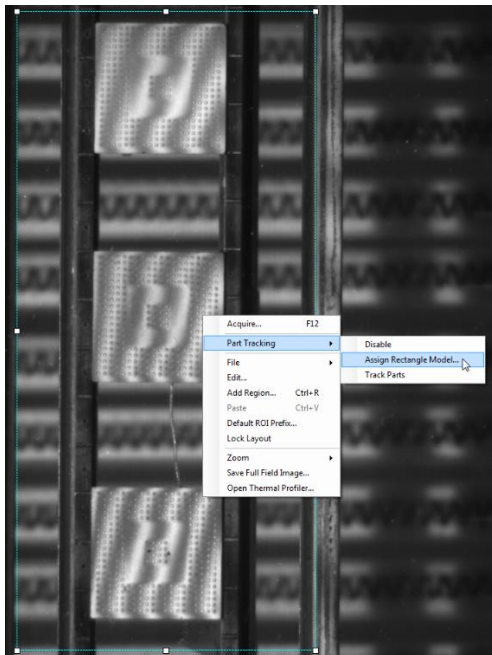
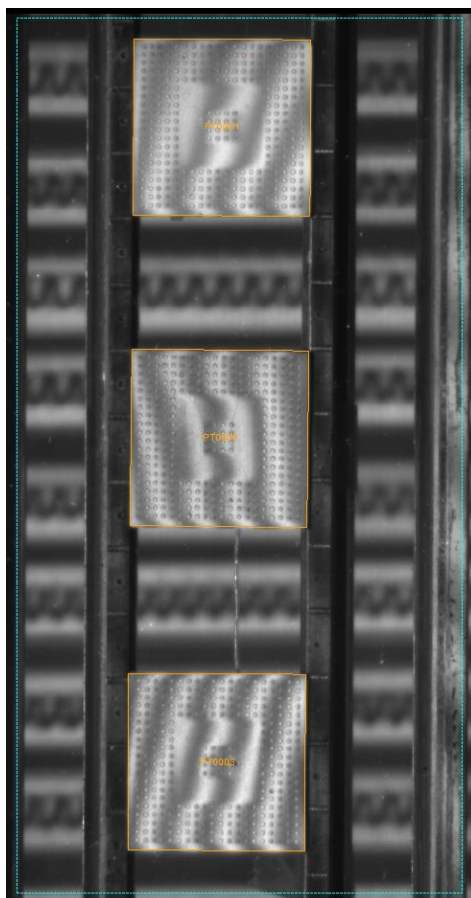

Figure 2.44 Assign Model
Figure 2.46 Tracked Parts
3. Size the blue, dotted-line ROI such that it contains all parts that will be tracked. Right click inside this ROI and click 'Assign Rectangle Model' (**Figure 2.44**).
Note: Instead of immediate acquisition, which may incur a large processing time with large numbers of parts, the user can check part tracking settings by right-clicking on the camera context window and selecting the 'Track Parts' option shown in **Figure 2.44**. The currently tracked parts will be shown outlined in orange as shown in **Figure 2.46**. The same tracking display will be seen after a normal acquisition with Part Tracking enabled.